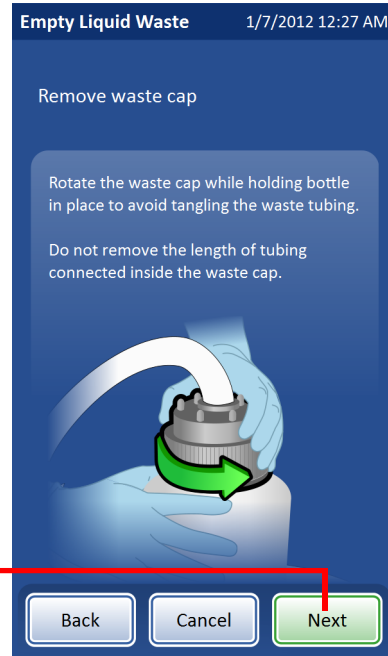

Figure 8-14 Opening/closing the waste bottle
4. **Cap removal** — Open the waste bottle cap by rotating the waste cap while holding the bottle in place to avoid tangling the waste tubing. See Figure 8-14.